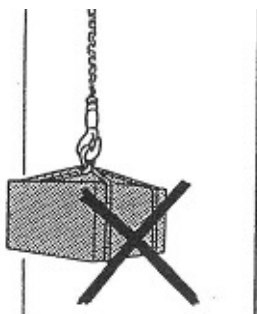

fig.60
1. Place the load in the intended location. Never leave the load suspended (fig. 60)